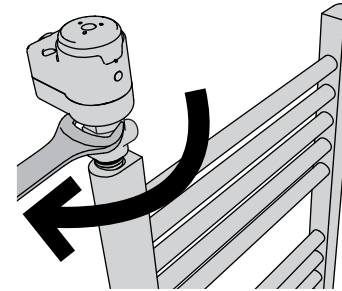

Fig. 10
7. Then using a 27 mm spanner turn the T-piece with screwed ATLANTIS heating element until the last nipple thread turn and if necessary continue in order to have the regulating box facing forward (Fig. 10).